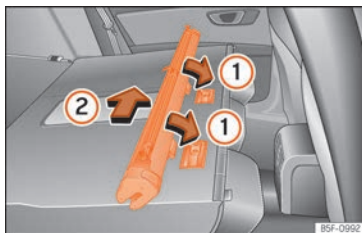

Fig. 159 Assembling the net partition in the rear seat backrests.
- Place the net casing in the rail slots in the direction of the arrows » **Fig. 159 ①**.
- Push the casing towards the left side of the vehicle in the direction of arrow » **Fig. 159 ②** and as far as it will go.
»» Fig. 159 ②.
»» Fig. 159 ①.